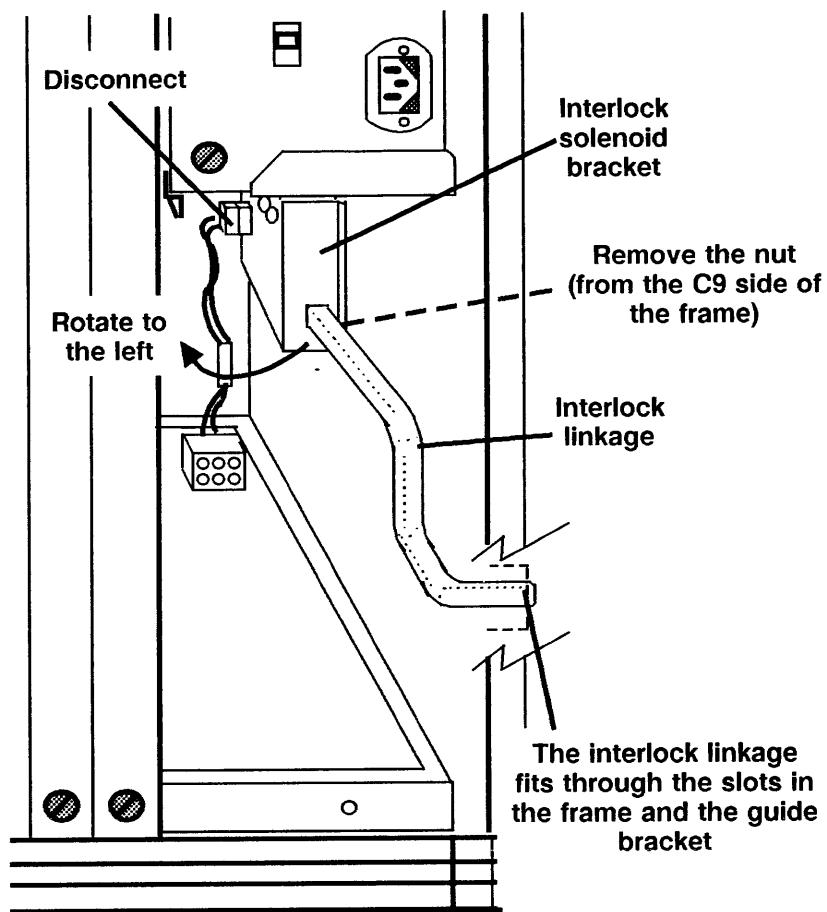

Figure 35. Removable Rigid Drive Interlock Solenoid
10. Remove the interlock solenoid assembly (Figure 35).